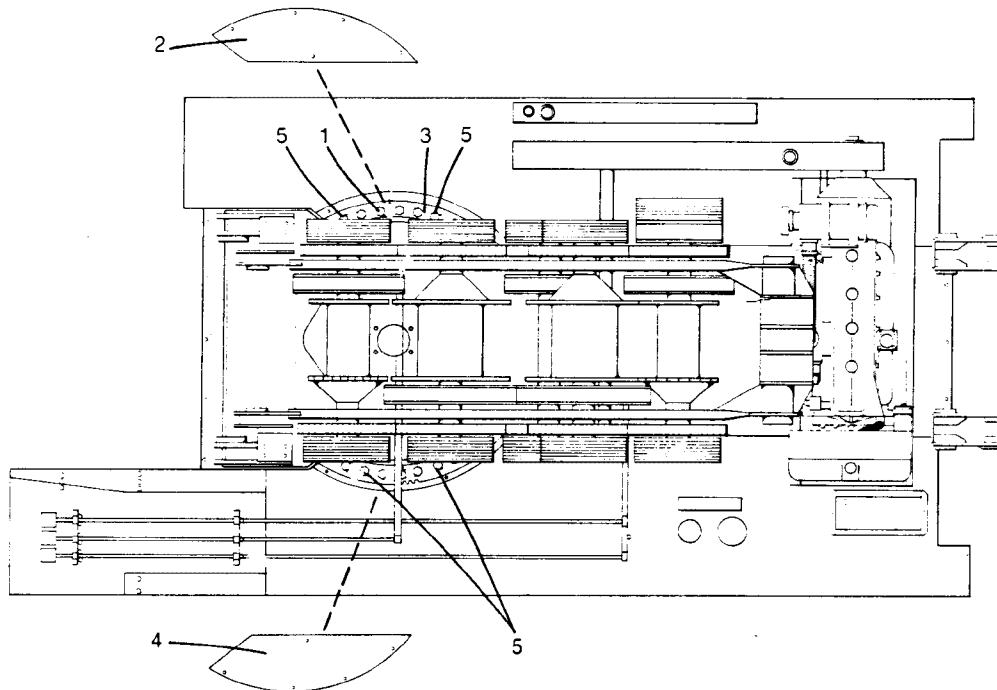

Fig. 2
(c) Remove bearing cover plates from both sides of the revolving frame to expose the bearing. (Item 2 and 5, Fig. 2.)
(d) Install four positioning studs (6 in Fig. 2), in the tapped holes in the carrier frame or mounting base.
- (d) Remove the four capscrews, refer to Fig. 2, item 5, and install four positioning studs.